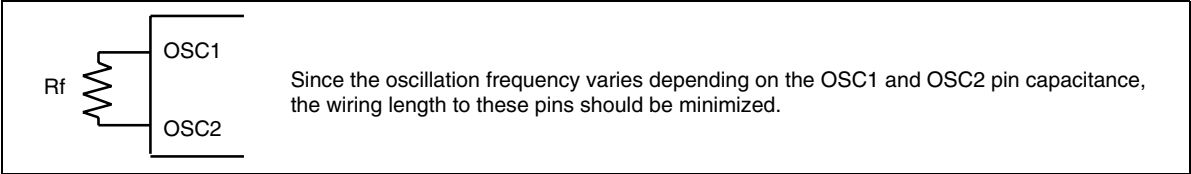

Figure 56 Internal Oscillation
10. Applies to the internal oscillator operations using external oscillation resistor Rf (figure 56 and table 31).